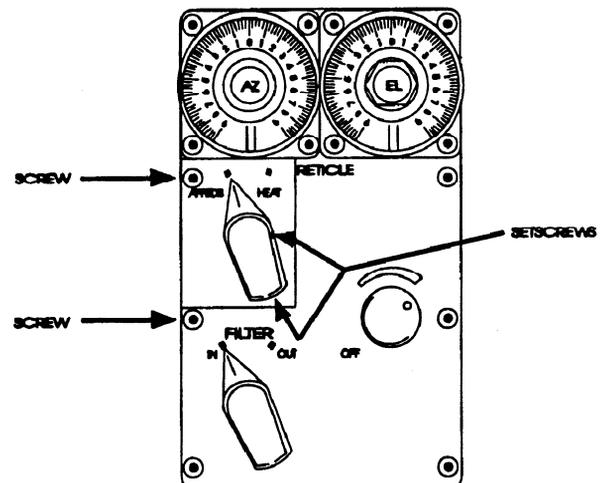

Figure 2-44. GAS Reticle Select Switch Facade
2.4.7.4.1.6 GAS Reticle Select Switch Facade Installation. Install the GAS Reticle Select switch facade (see Figure 2-44) as follows: